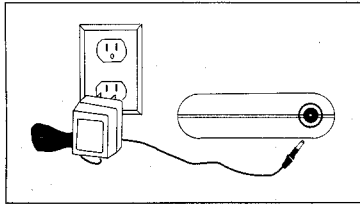

Figure 2a
**House Current** - Plug the house current adapter (L) into any 110/115V AC (house current) wall outlet; then, plug the other end into the charger's power input (A). See Figure 2a.